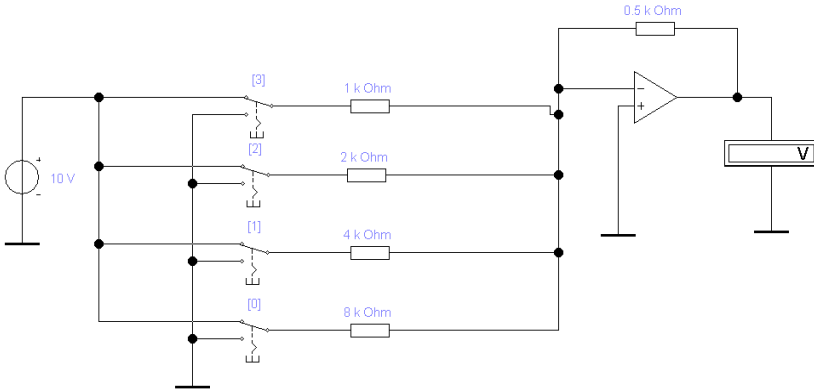

Figure 12.1 – DAC based on an inverting adder
1. Collect the diagram shown in fig 12.1.